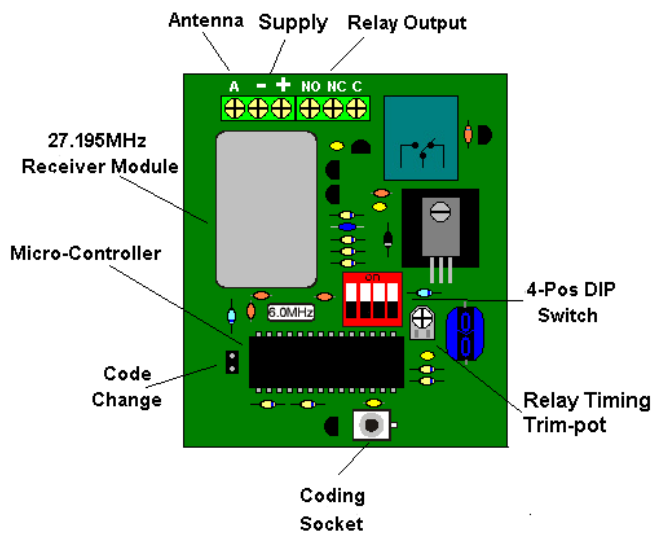

Figure 1. SRWSSH 1 Receiver
1. Using a flat-bladed screwdriver, short the code change pins on the receiver marked by the “CC” symbol. This will randomly generate a new receiver security code. Refer to Figure 1 for the location of the code change pins.
3. Connect the link cable (RED) to the coding sockets of the receiver and the transmitter. The coding socket of the transmitter is in the battery port. The LED on the keypad will glow solid red to indicate a properly installed link cable. See Figure 1 for the location of the receiver coding socket and Figure 3 below to find the coding socket of the transmitter.
2. To randomly generate a new receiver security code, short the code change pins marked by the “CC” symbol. Refer to Figure 1 to locate the code change pins.